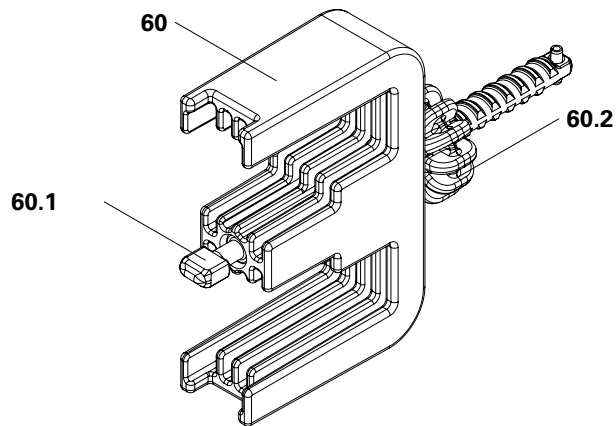

Fig. A3.12
The DUO timber connector (60) is used to install one or two metal profiles measuring 50 x 50 mm or square timbers measuring 40 x 90 mm for aligning DP panels. (Fig. A3.12)